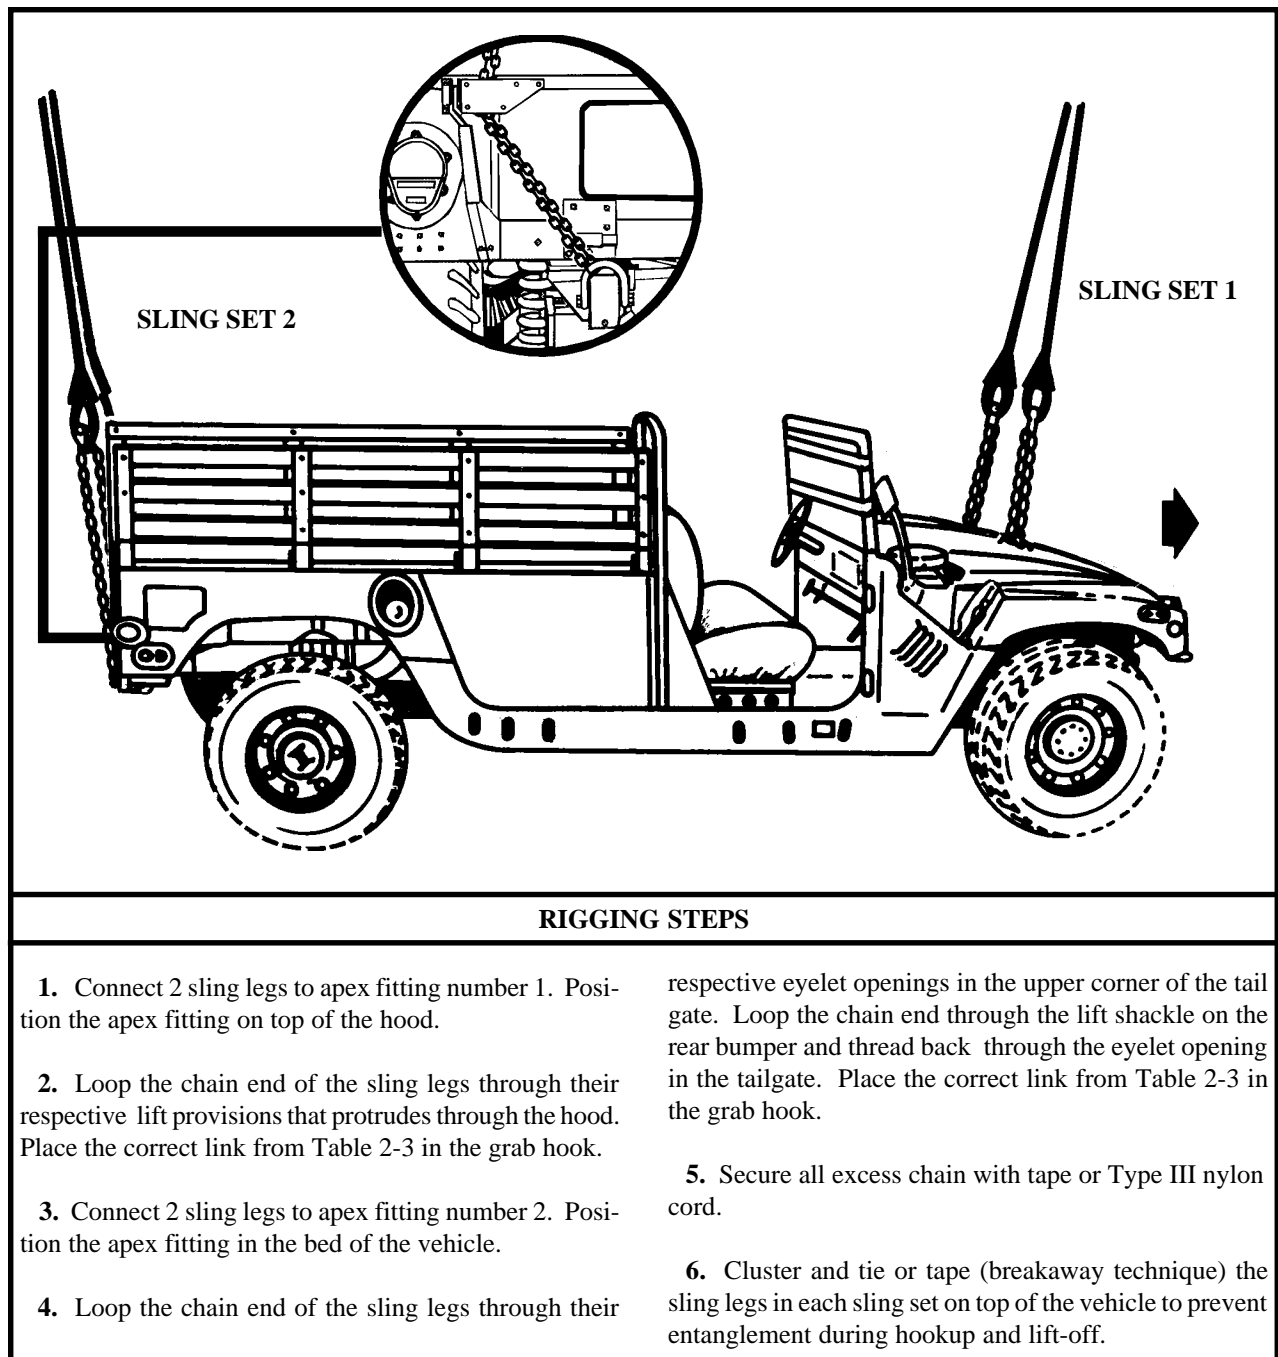

Figure 2-3. 1 1/4-Ton Cargo Truck (HMMWV)
(2) **Rigging.** Rig the load according to the steps in Figure 2-3.
(4) **Derigging.** Derigging is the reverse of the preparation and rigging procedures in steps d (1) and d (2).